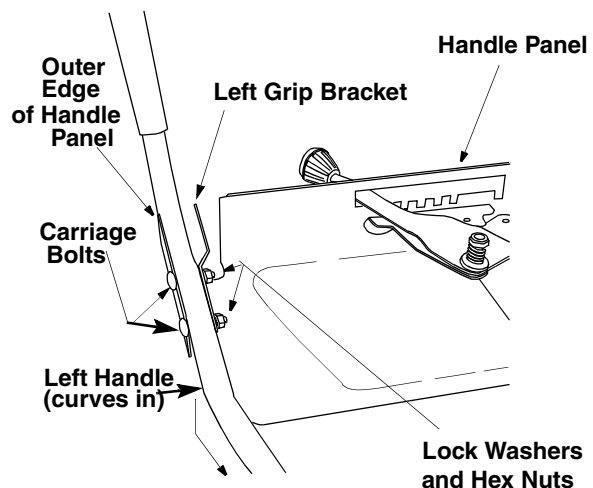

Figure 3
1. Attach left handle and grip bracket to handle panel with two carriage bolts, lock washers and hex nuts. (Be sure the bend in the grip bracket is towards the center of the handle panel. (See Figure 3.) Do not tighten at this time.